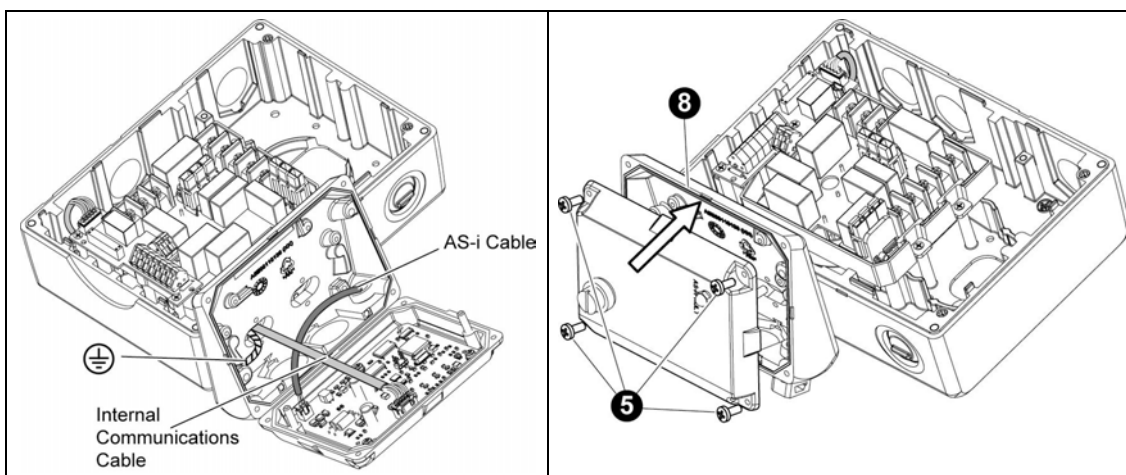

Figure 2-8 Cable Connections
10. Connect the AS-I Cable to the two-way connector in the upper housing of the module (see Figure 2-8 below).
11. Connect the internal communications cable to the five-way socket in the upper housing of the module (see Figure 2-8 below).
13. Apply a gentle pressure until the lid ⑧ is firmly closed.
14. Secure the lid via retaining screws ⑤ at each corner.